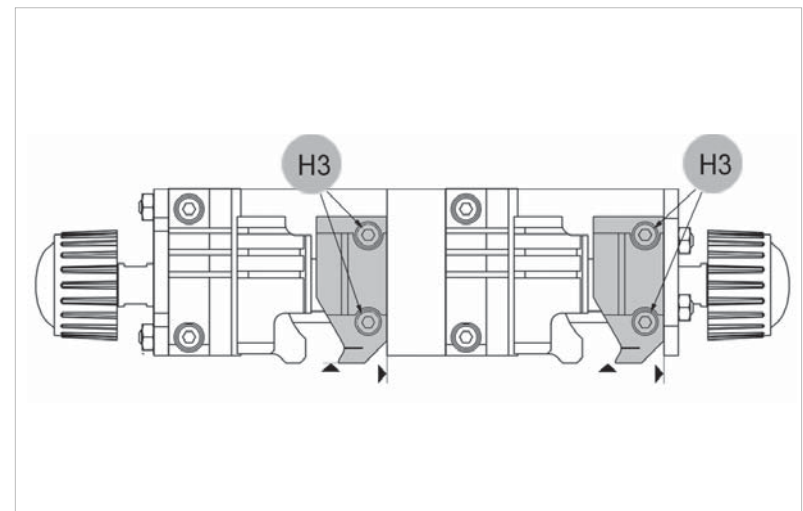

Fig. 85
- 2) Carefully clean the seat and fit the new jaw up against the right-hand side and align also from the front (Fig. 85).